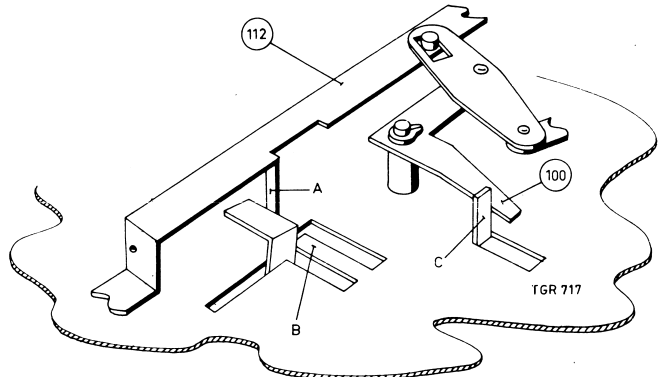
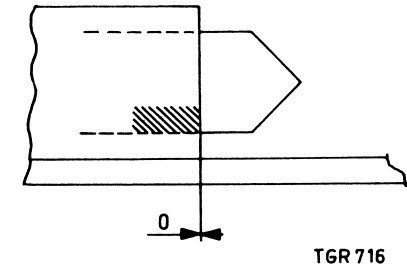
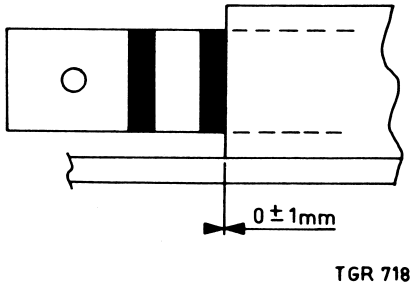

Fig. 9
Fig. 26
Fig. 27
Depress the "play-back" button; the switch should then be in the indicated position, see Fig. 26. Adjust by bending tag A on the bracket, item 112, see Fig. 9.
Check : No buttons depressed; switch should be as indicated in Fig. 27. Adjust by bending tag B in the mounting plate, see Fig. 9.